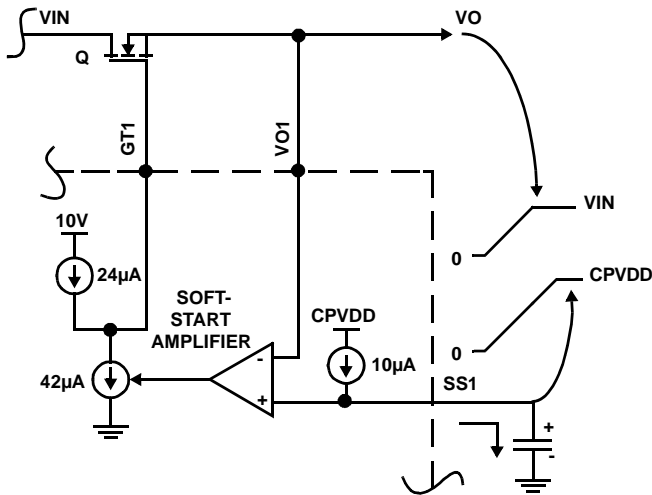

FIGURE 15. SOFT-START OPERATION
The output voltages are monitored through the Vo pins and slew up at a rate determined by the capacitors on the Soft-start (SS) pin, as illustrated in Figure 15. 24µA of gate charge current is available. The soft-start amplifier controls the output voltage by robbing some of the gate charge current thus slowing down the MOSFET enhancement. When the load voltage reaches its set level, as sensed by its respective UV pin through an external resistor divider, the Power Good (\overline{PG}) output goes active.
I_{INRUSH} is the sum of the DC steady-state load current and the load capacitance charging current. If the DC steady-state load remains disabled until after the soft-start period expires (PGX could be used as a load enable signal, for example), then only the capacitor charging current should be used as I_{INRUSH} . The C_{SS} value should always be more than (1/2.4) of that of C_{ISS} of the MOSFET to ensure proper soft-start operation. This is because the C_{ISS} is charged from $24\mu\text{A}$ current source, whereas the C_{SS} gets charged from a $10\mu\text{A}$ current source (Figure 15). In order to make sure both V_{SS} and V_O track during the soft-start, this condition is necessary.